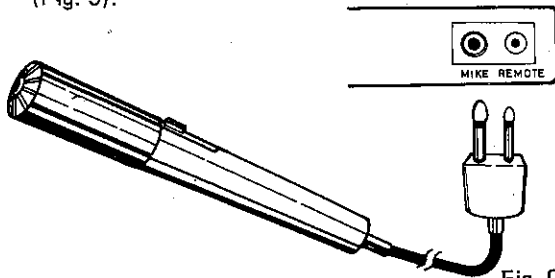

Fig. 9
1. Plug in an external microphone (optional extra) into the MIKE (or MIC) and REMOTE sockets (Fig. 9).